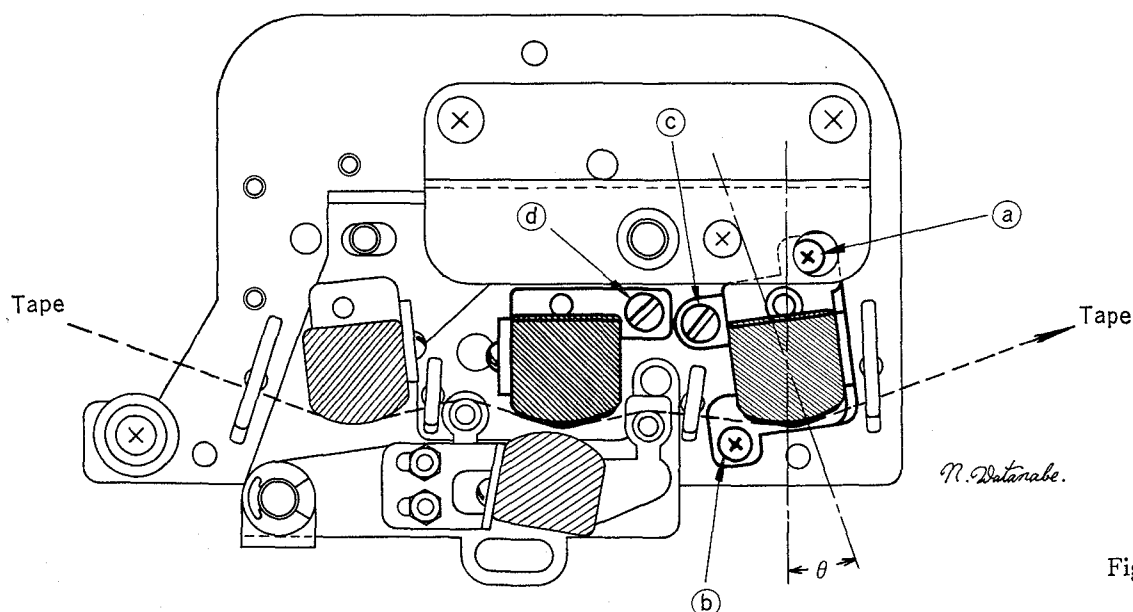

Fig. 7
- ① In order to adjust the playback head, playback a pre-recorded tape of 8,000 Hz at $3\frac{3}{4}$ " / sec or 16 KHz at $7\frac{1}{2}$ " / sec, connect a V.T.V.M. to the line output jack, and adjust the azimuth angle (θ) of the playback head with respect to the direction of the tape travel by loosening the screws (a) and (b) as shown in Fig. 7 thereby to determine an angle to give a maximum value of the line output voltage. When this is all complete, retighten the screws (a) and (b) and restore the head securely in position.
- ② With this, align the azimuth of the playback head by turning the screw (c) as shown in Fig. 7 and when the voltage of the line output has assumed a maximum value retighten the screw. Thus, the playback head has been completely oriented.
- ③ For the purpose of adjusting the recording head, follow the instructions given below:
- v) Perform recording operation and turn the screw ① as shown in Fig. 7 until the pointer of the V. T. V. M. registers a maximum value.